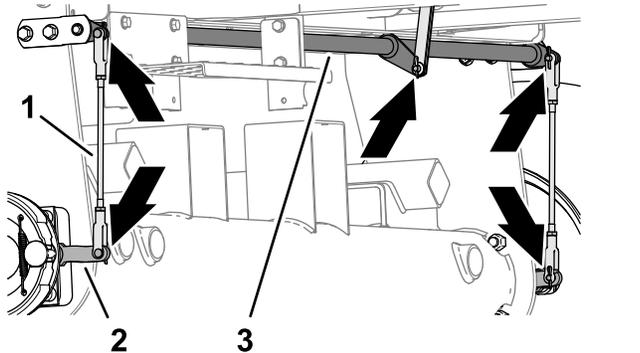

Figure 84
1. Inspect the left and right brake-rod assemblies (Figure 84) for damage and wear.
2. Inspect the brake pivot shaft (Figure 84) for damage and wear.